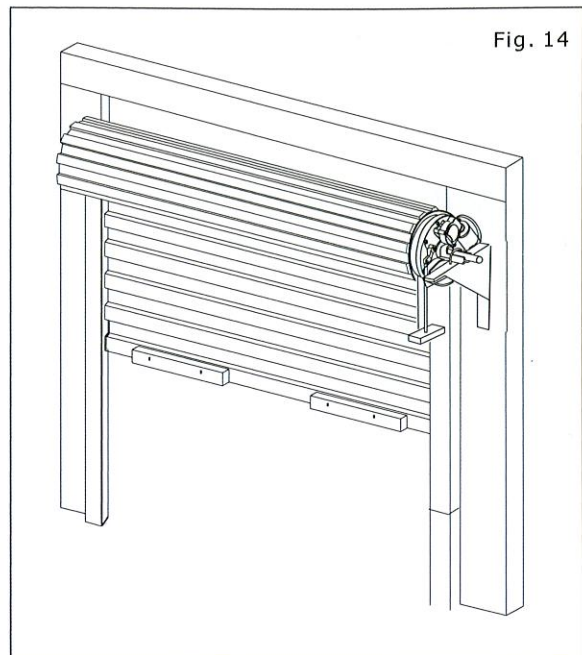

Fig. 14
- (f) Re-engage the drive gear by Pull down the GREEN string handle (see Fig 14).
The door now has to be tested for response to an obstruction while it is opening and closing. Press the CLOSE Button with the door in the open position, the door should start closing. When the door reaches half the closing distances (see Fig.14) holding the bottom of the door with your hands. If the door does not reverse open readily the force may be excessive and need adjusting.